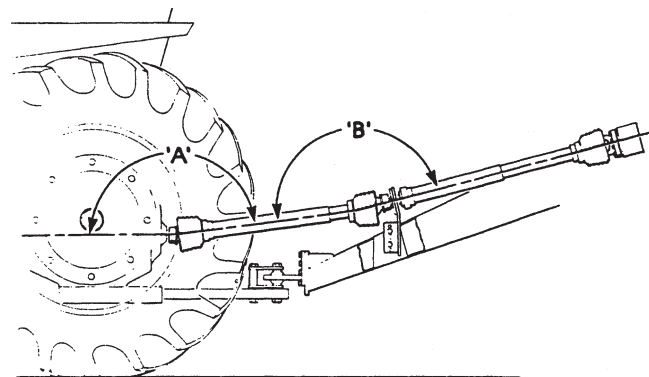
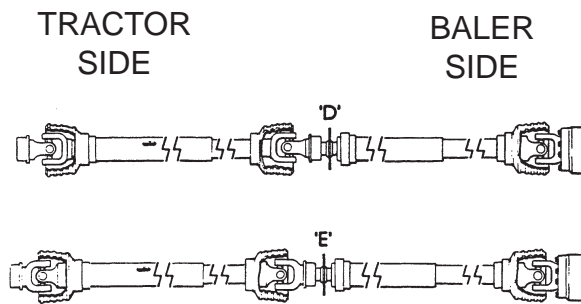

Figure 1-15 Driveline
Figure 1-16 Driveline
7. The drivelines must be adjusted so the angle of the tractor u-joint, 'A', and the angle of the center u-joint, 'B' are equal (see Figure 1-15). To achieve equal angles at 'A' and 'B', adjust the vertical position of the carrier bearing support bracket. If after repositioning the support bracket, the angles are not equal, select the bracket position that allows the closest angle setting. The objective is to achieve, as closely as possible, equal angles as described above while keeping the angle of the u-joint at the slip clutch to a minimum.
8. If equal angles are not achieved at 'A' and 'B', (see Figure 1-14), either driveline phasing, (alignment of u-joint yokes), illustrated in Figure 1-15 is acceptable. If the angles cannot be made equal, then reposition the driveline yokes as shown. If the angle at 'B' is greater than at 'A', phase the driveline yokes as shown in Figure 1-16, (E). If angle at 'A' is greater than the angle at 'B', phase the yokes as shown in Figure 1-16, (D).